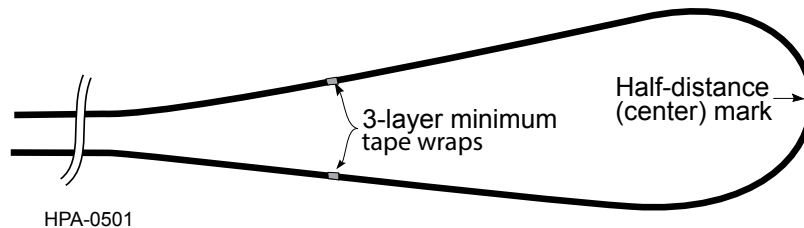

Figure 14
- Step 4:** Wrap each of these points with at least 3 wraps of vinyl tape. The total length from tape wrap to tape wrap should equal the full desired strip length (Figure 14). *These wraps will permanently remain on the cable.*